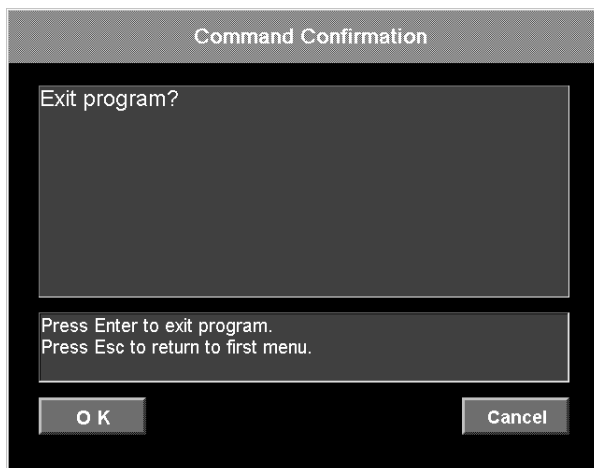

Fig. 15
- To quit, click the **OK** button or press the Enter key on your keyboard. (Fig. 15)